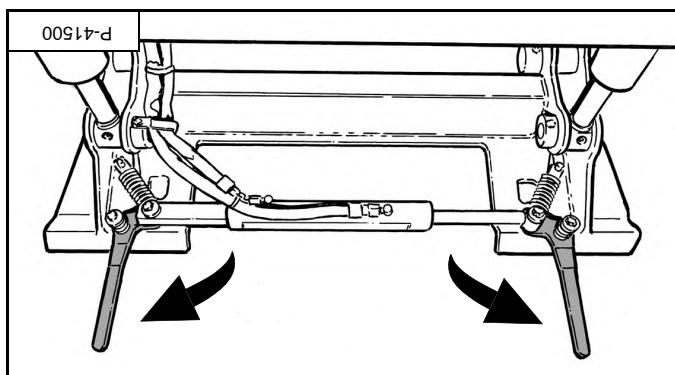
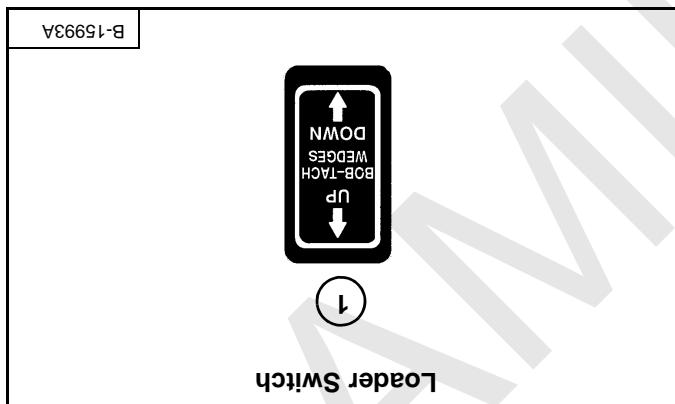

Figure 40
Figure 39
Push and hold the BOB-TACH "WEDGES UP" switch (item 1) [Figure 39] until the levers are fully raised (wedges fully raised) [Figure 40].